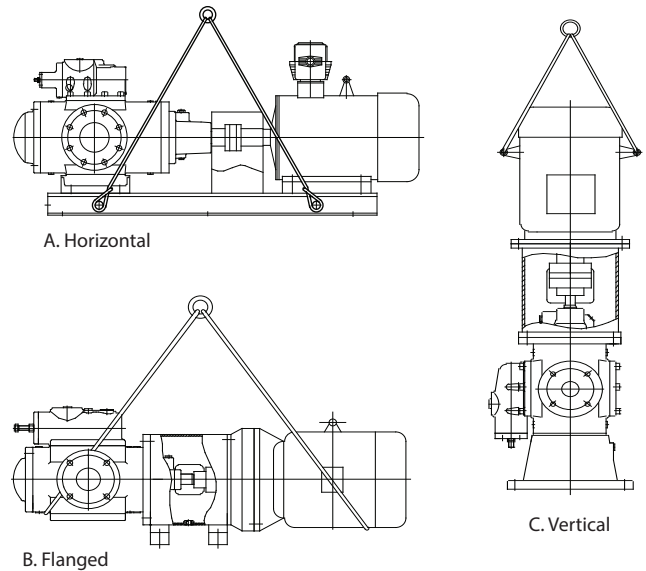

Figure 3.2 - Lifting the Pumping Unit
3. When lifting the pumping unit (motor included), chain should be attached to the hook of the base-plate. Make sure that no pipes or attached auxiliaries are damaged. See Figure 3.2 for reference.